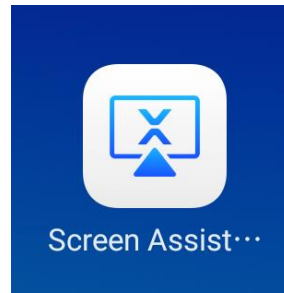

Figure 4.2
③ Open the projection screen assistant software and complete the Screen mirroring. Refer to Figure 4.2.